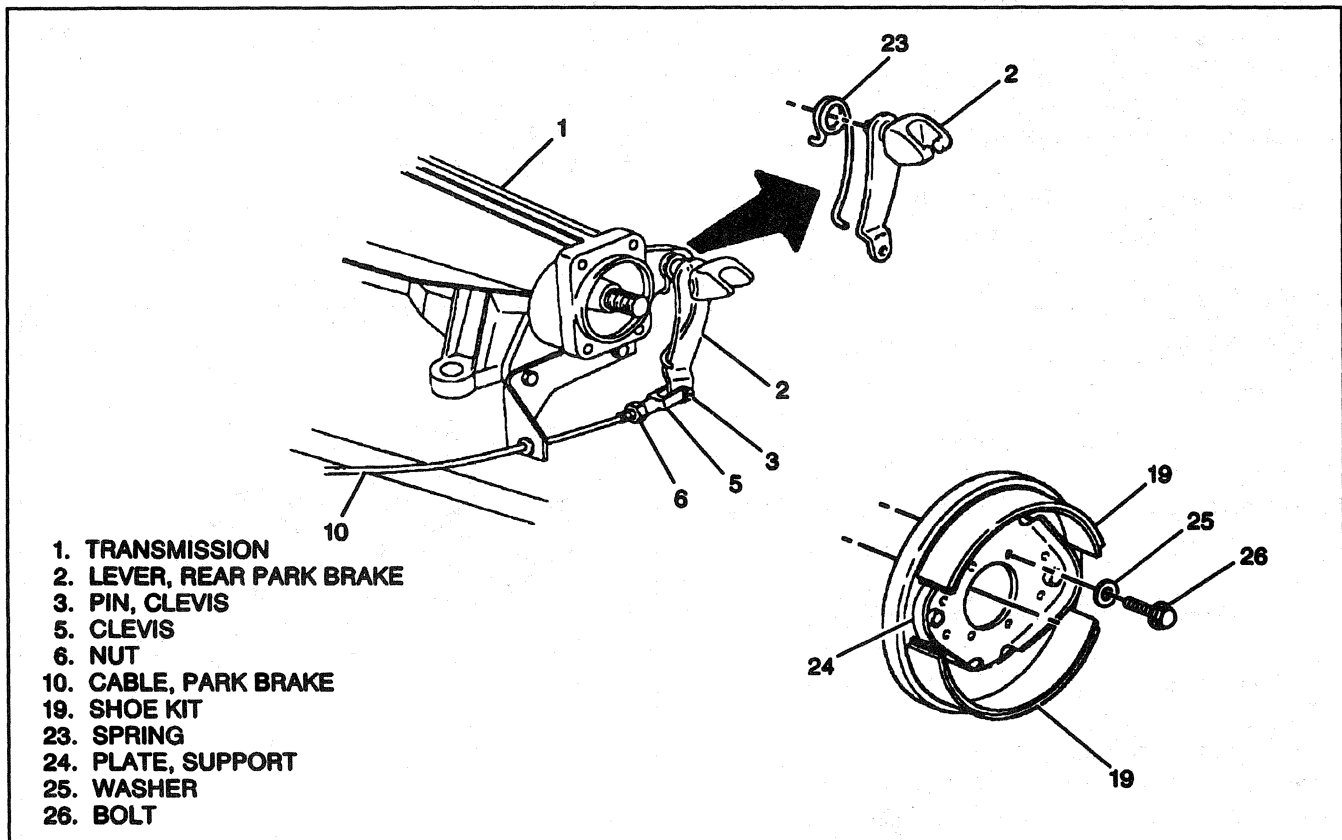

Figure 9—Parking Brake Components
Remove or Disconnect (Figures 9 and 10)
**Install or Connect (Figures 9 and 10)**